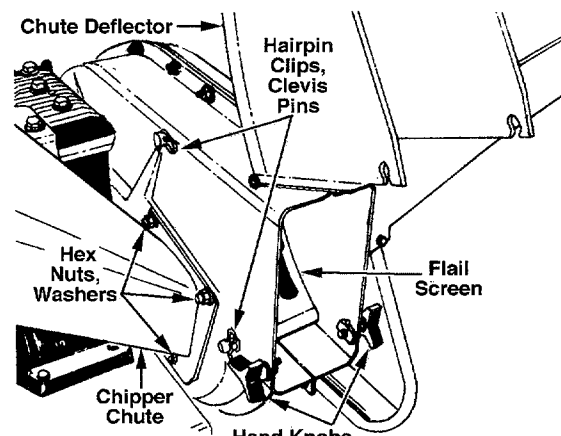

Figure 17
- Remove two hairpin clips from the clevis pins which extend through the housing. Remove the clevis pins. See figure 17.
- Pull the flail screen from inside the housing. See figure 17.
- Using a 1/2" wrench, remove the chipper chute by removing three hex nuts and washers. See figure 17.